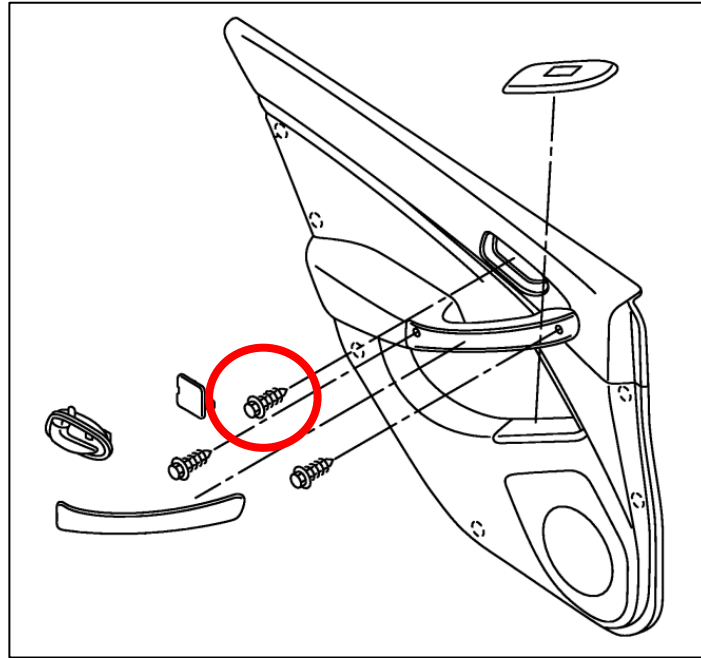

Figure 27
4. Remove the (1) one 10mm Bolt hidden behind the Trim Piece that was just removed. *Figure 27*